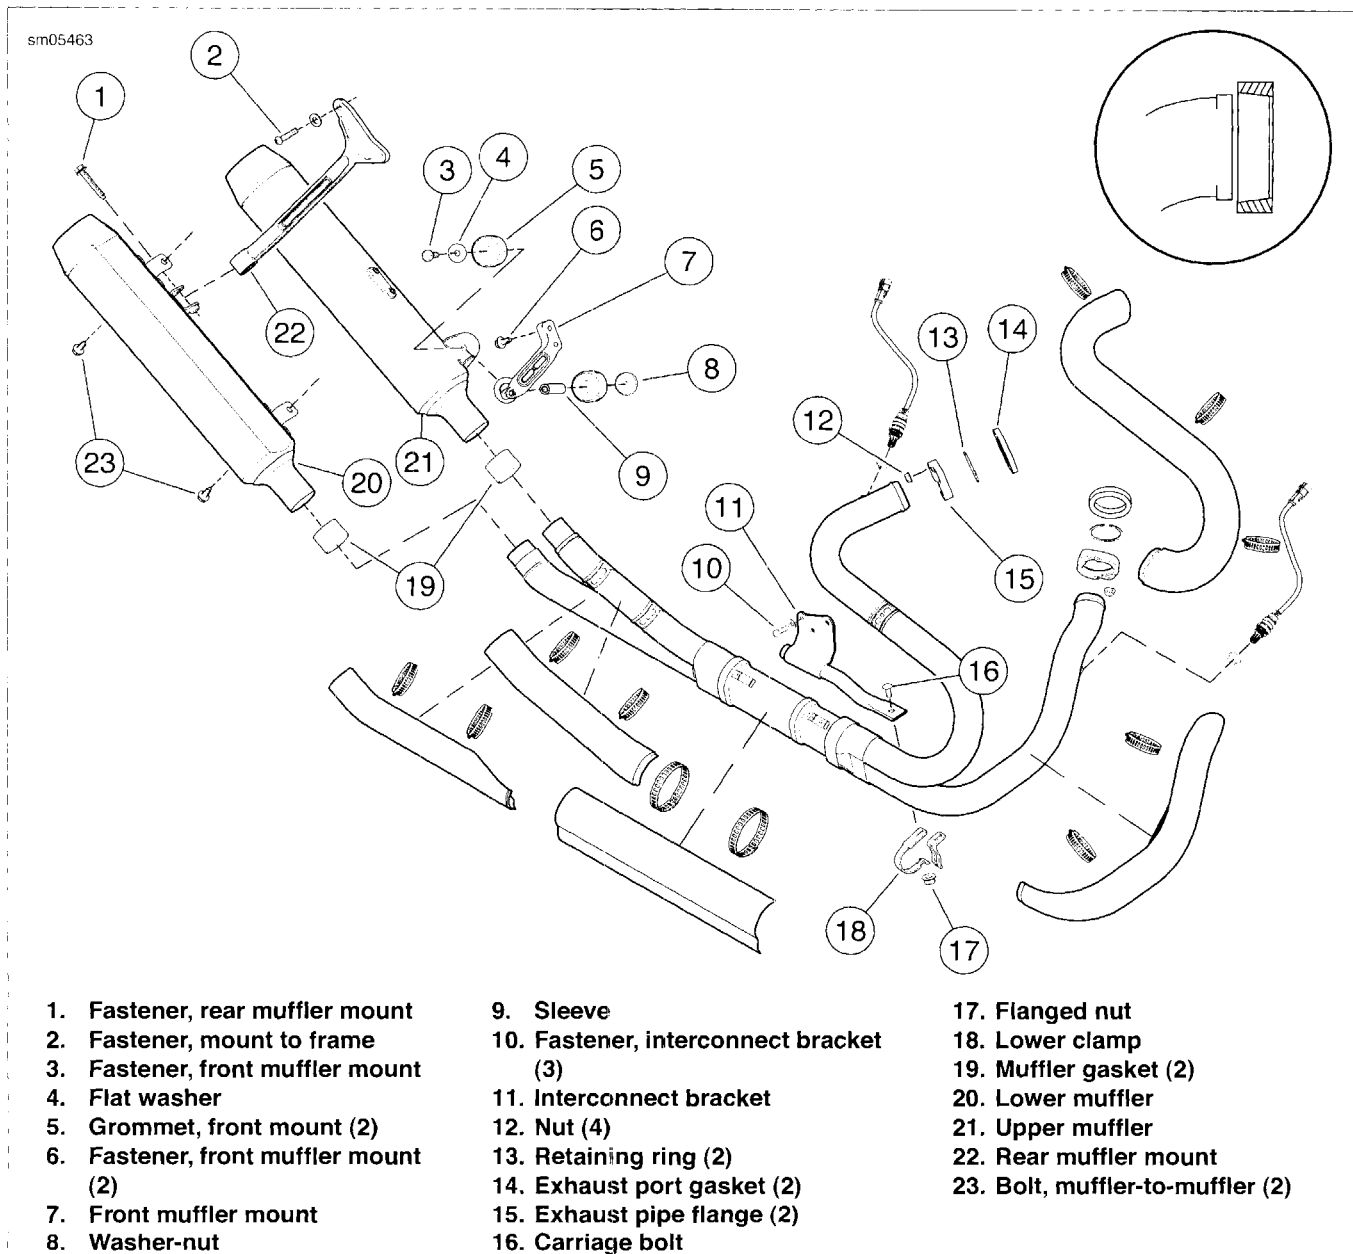

Figure 4-73. Exhaust System: XR Models
- See Figure 4-73. Remove forward muffler mount fastener (3) and washer-nut (8).
- Remove two bolts (23) fastening mufflers together.
- Slide upper muffler (21) back off header pipe to remove.
- Remove rear muffler mount fastener (1).
- Rotate lower muffler (20) counterclockwise to disengage from the rear mount (22) and slide back off header pipe to remove.
6. Remove mount grommets (5) and sleeve (9).
7. Inspect rear mount (22) and replace if damaged.
8. Inspect muffler seals (19) and replace if necessary:
3. See Figure 4-73. Loosen or remove head pipe heat shields to gain access to header pipe flange nuts (12).
4. Remove flange nuts (12) and pull flanges (15) off from studs.
5. Remove nut (17) and carriage bolt (16) from lower clamp (18).
7. Inspect exhaust port gasket (14) and replace if necessary.
- b. Push **new** gasket into place with the larger ID facing the header pipe, as shown in the inset in Figure 4-73.
8. Remove retainer rings (13) and flanges (15) if necessary.
9. If necessary, remove mount brackets (7, 22) and interconnect bracket (11).
1. See Figure 4-73. If removed, install flanges (15) and retaining rings (13).
2. If removed, install rear mount (22), front mount (7), and interconnect bracket (11).
- a. Tighten fasteners (2) to 15-20 ft-lbs (20.3-27.1 Nm).
- b. Tighten fasteners (6) to 45-50 ft-lbs (61.0-67.8 Nm).
- c. Tighten fasteners (10) to 30-33 ft-lbs (40.7-44.7 Nm).